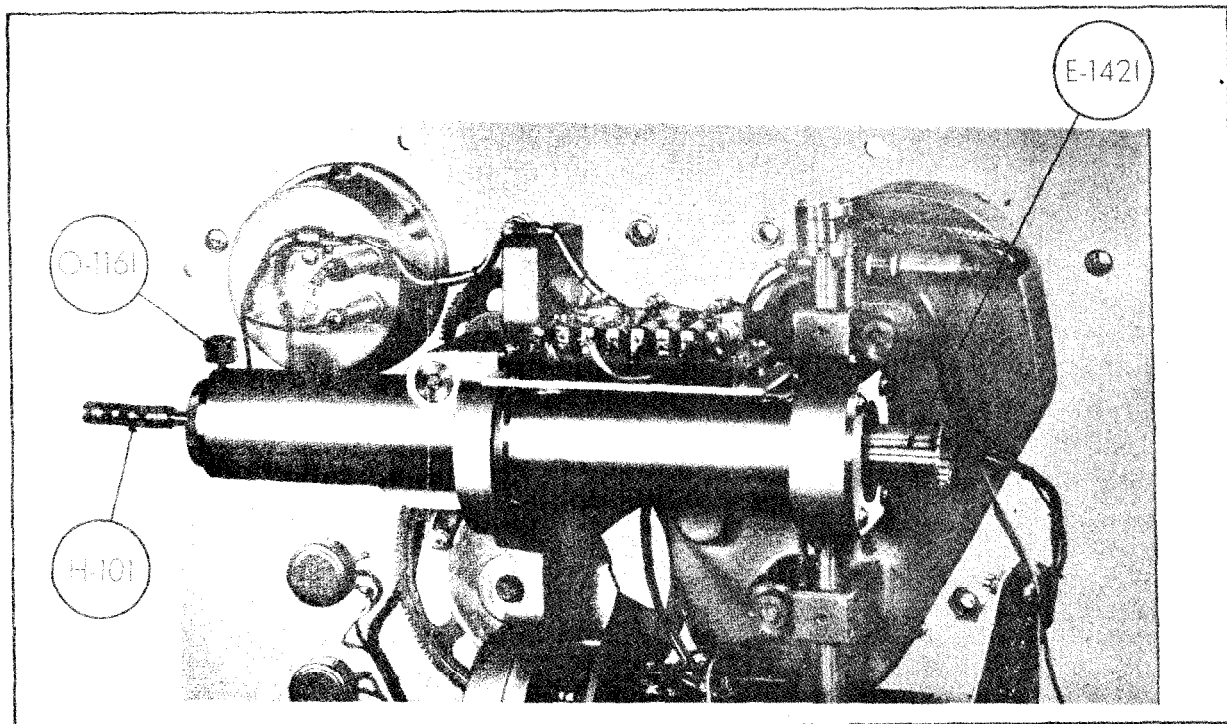

Figure 4-5. Tube Released from Contact Fingers
(6) Still holding the tube so that it will not fall, push the tube contact assembly E-142I *slowly* until tube is released from contact fingers. See figure 4-5.
(7) Remove the split ring contacts from lower resonator grid of old tube and place on new. Make certain that the solid side of the split ring points towards the tube base.
(8) Insert new tube well into grid contact fingers and pull tool so that E-142I is drawn out of E-142H and so that the tube is locked into the fingers. Be very careful that the tube is securely locked into the contact fingers.
(9) Loosen thumbscrew O-116I and pull inner conductor E-142H gently until tube seats in cavity. Make certain that tube has seated properly.
(10) Replace and tighten housing support E-142E.
(11) Tighten thumbscrew O-116I.
(12) Replace housing E-142B and then the #6-32 screw.
(13) Owing to variations in tube characteristics, it now may be necessary to adjust the repeller voltage on the JAN-2K28 tube. To determine whether or not such adjustment is necessary, connect the RF OUTPUT terminal of Signal Generator TS-403/U to an external synchro scope. It will be necessary also to use a crystal detector in order to demodulate the rf. Set the modulation selector switch (S-103) to the INT position and the SYNC SELECTOR switch (S-101) to either the x1 or x10 positions. The PULSE RATE, PULSE WIDTH, and PULSE DELAY controls can be set as desired.